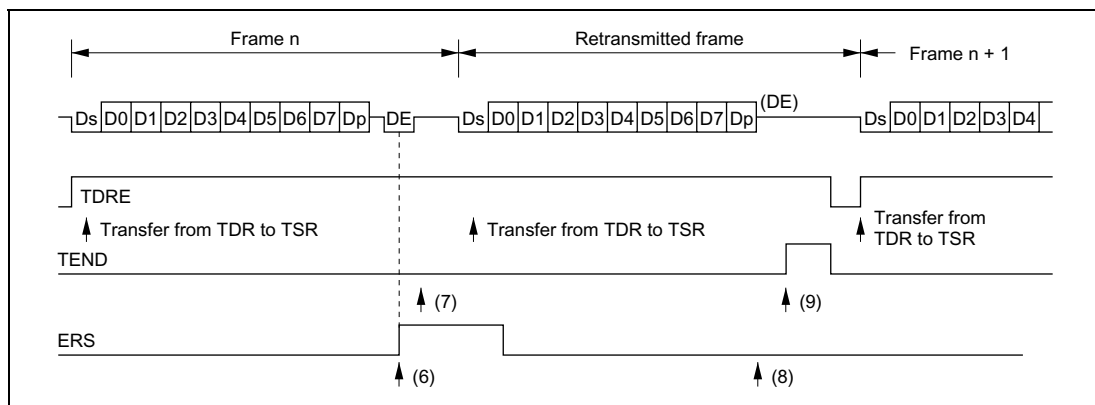

Figure 14.12 Retransmission in SCI Transmit Mode
- Retransmission when SCI is in Transmit Mode (see figure 14.12)
- (6) After transmitting one frame, if the receiving device returns an error signal, the SCI sets the ERS flag to 1 in SSR. If the RIE bit in SCR is set to the enable state, an ERI interrupt is requested. The ERS flag should be cleared to 0 in SSR before the next parity bit sampling timing.
- (7) The TEND bit in SSR is not set for the frame in which the error signal was received, indicating an error.
- (8) If no error signal is returned from the receiving device, the ERS flag is not set in SSR.
- (9) If no error signal is returned from the receiving device, transmission of the frame, including retransmission, is assumed to be complete, and the TEND bit is set to 1 in SSR. If the TIE bit in SCR is set to the enable state, a TXI interrupt is requested. If TXI is enabled as a DMA transfer activation source, the next data can be written in TDR automatically. When the DMAC writes data in TDR, it automatically clears the TDRE bit to 0.